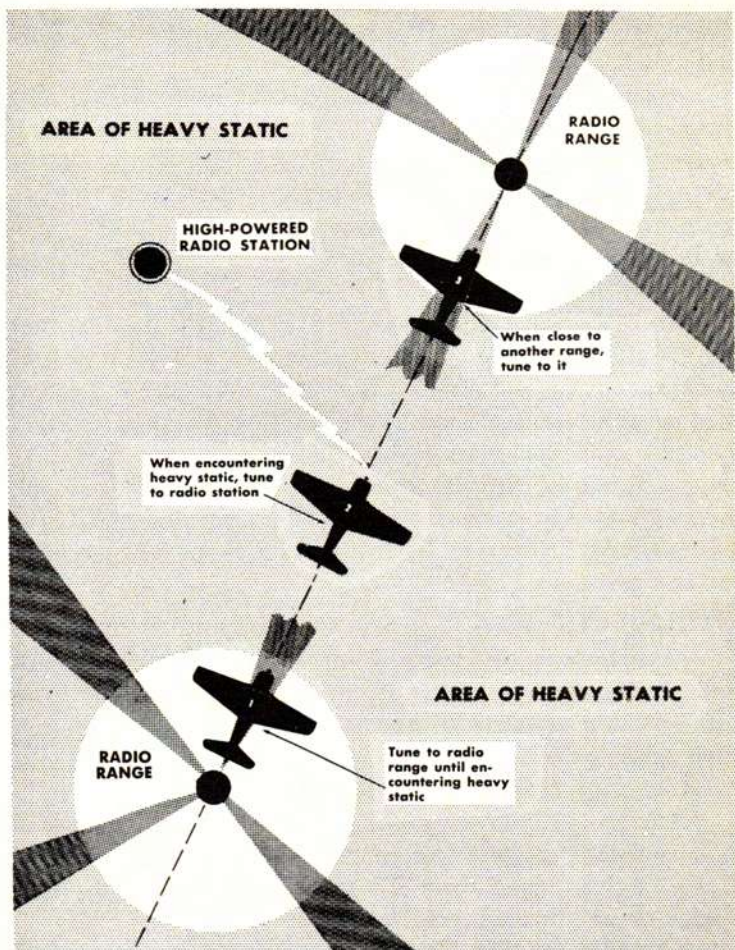

Figure 4-9-2. Procedure for combating precipitation static on flight along airways.
(2) Tune in the desired station on radio compass and switch to LOOP position. Rotate the loop to get the maximum signal from the desired station.
(3) If your aircraft is equipped with a trailing-wire antenna, instruct the radio operator to let out about 100 feet and then ground the antenna to the aircraft frame. Extreme caution should be used with this device, particularly in or near thunderstorms areas, *because the trailing wire will act as a lightning rod and attract a strike.*
(4) If your aircraft has neither a radio compass nor a trailing-wire antenna, *key* the transmitter at intervals. This increases the voltage on the antenna, thereby causing the accumulated charge to discharge into the surrounding atmosphere. This leaves the airplane almost electrically neutral for a short time. Then, radio reception is possible until a sufficient charge again builds up to produce a corona discharge.
(5) When the flight is along airways, follow the procedure shown in figure 4-9-2. Be sure and switch the audio filter to RANGE position.
(6) When attempting to communicate with the ground and you are within sight of the station, use the VHF radio, if your airplane is so equipped. Precipitation static does not disturb VHF radios as much as HF radios.